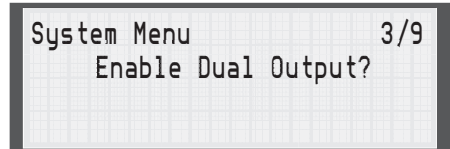

Fig. 5.22
1. Press the Menu key and use the Arrow keys to scroll to the Dual Power Mode (On/Off) option. Press the Enter key (**Fig. 5.22**).